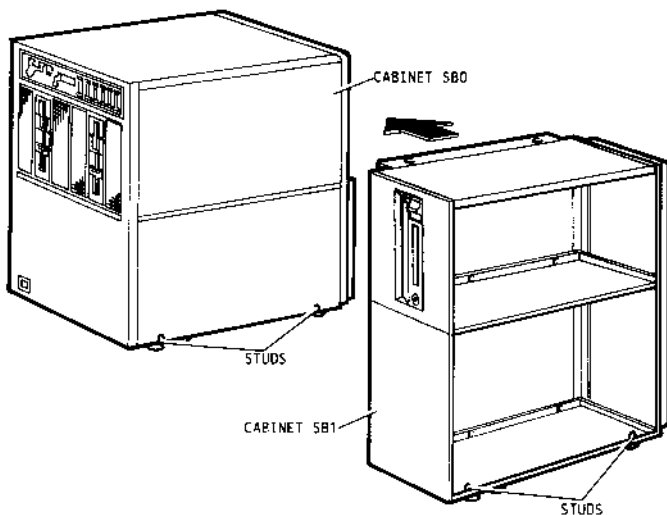

Fig. 2-25 Front View of SB0 and SB1 Frames
3. Unscrew the terminals on the SB0 frame lower right (see figure 2-25) and mount them on the bottom right of the SB1.